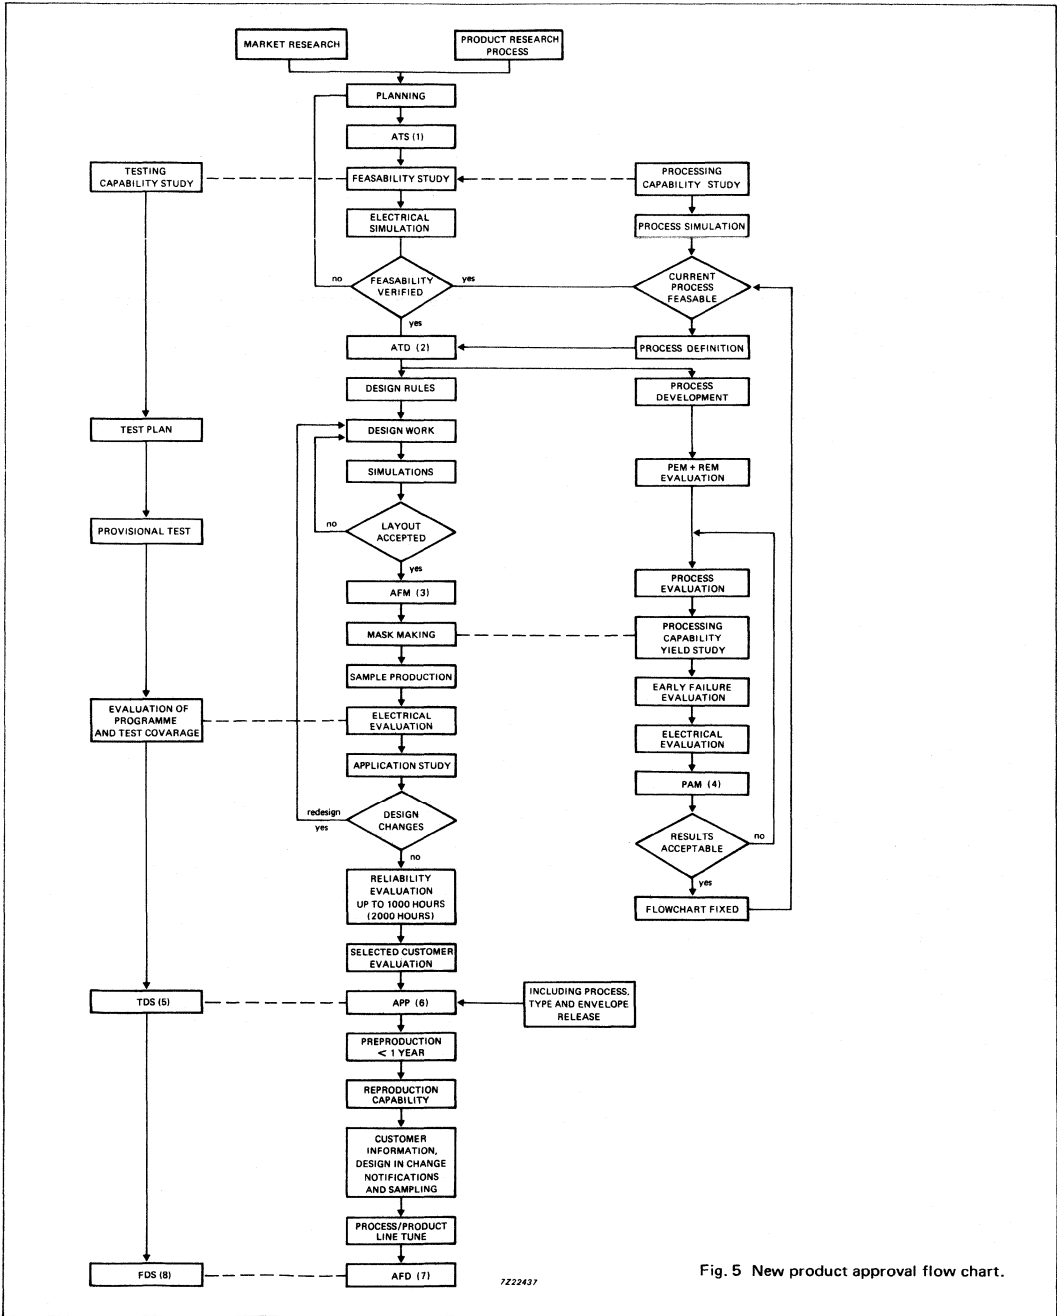

Fig. 5 New product approval flow chart.
### New product release (see Fig.5)
**Note to Fig.5**